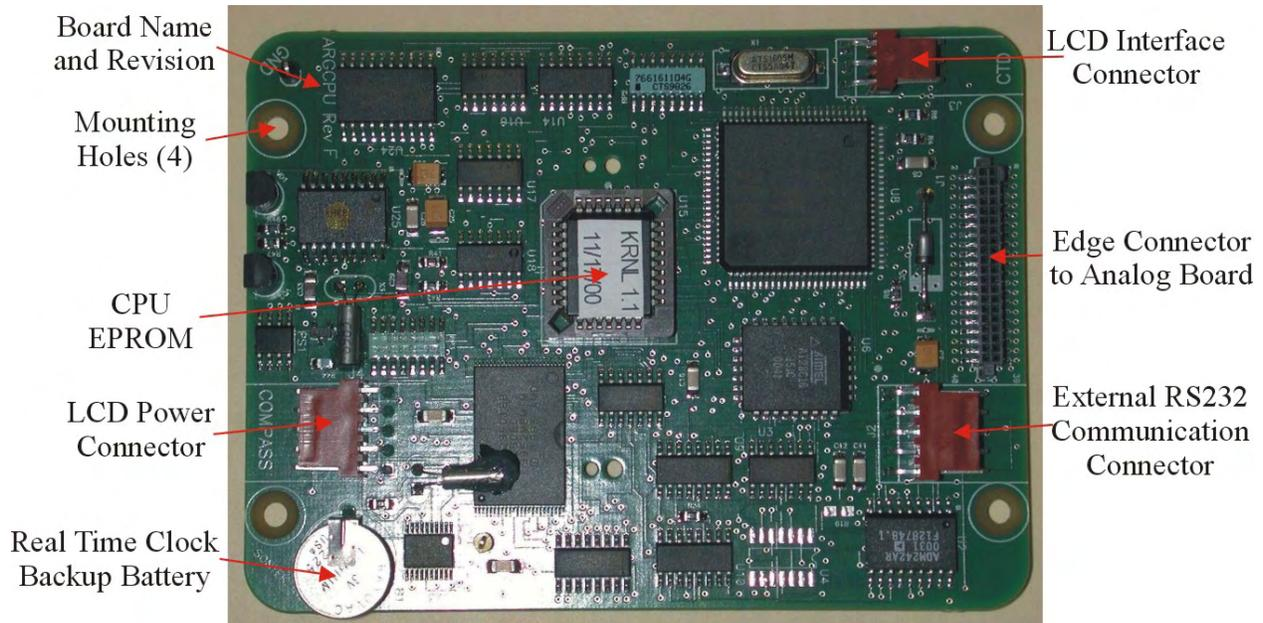

Figure 25 – FlowTracker CPU Board
The FlowTracker processor consists of two printed circuit boards – the Analog board (Figure 24) and the CPU board (Figure 25).
- A 40-pin edge connector mates below to the CPU board (Figure 25).
Figure 25 shows the layout of the CPU board.